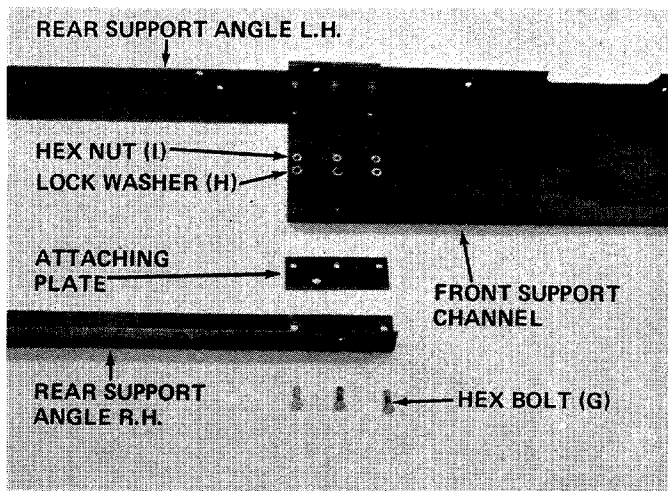

FIGURE 8
- A. Place the front support channel on a work bench or the floor. Place the rear support angles in position as shown in figure 8.
- B. Place the attaching plates between front support channel and rear support angles. See figure 8.
- C. Place hex bolts (G) through holes in side of rear support angles, attaching plates and front support channel. See figure 8.
- D. Secure hex bolts (G) with lock washers (H) hex nuts (I). **Make only finger tight.** See figure 8.